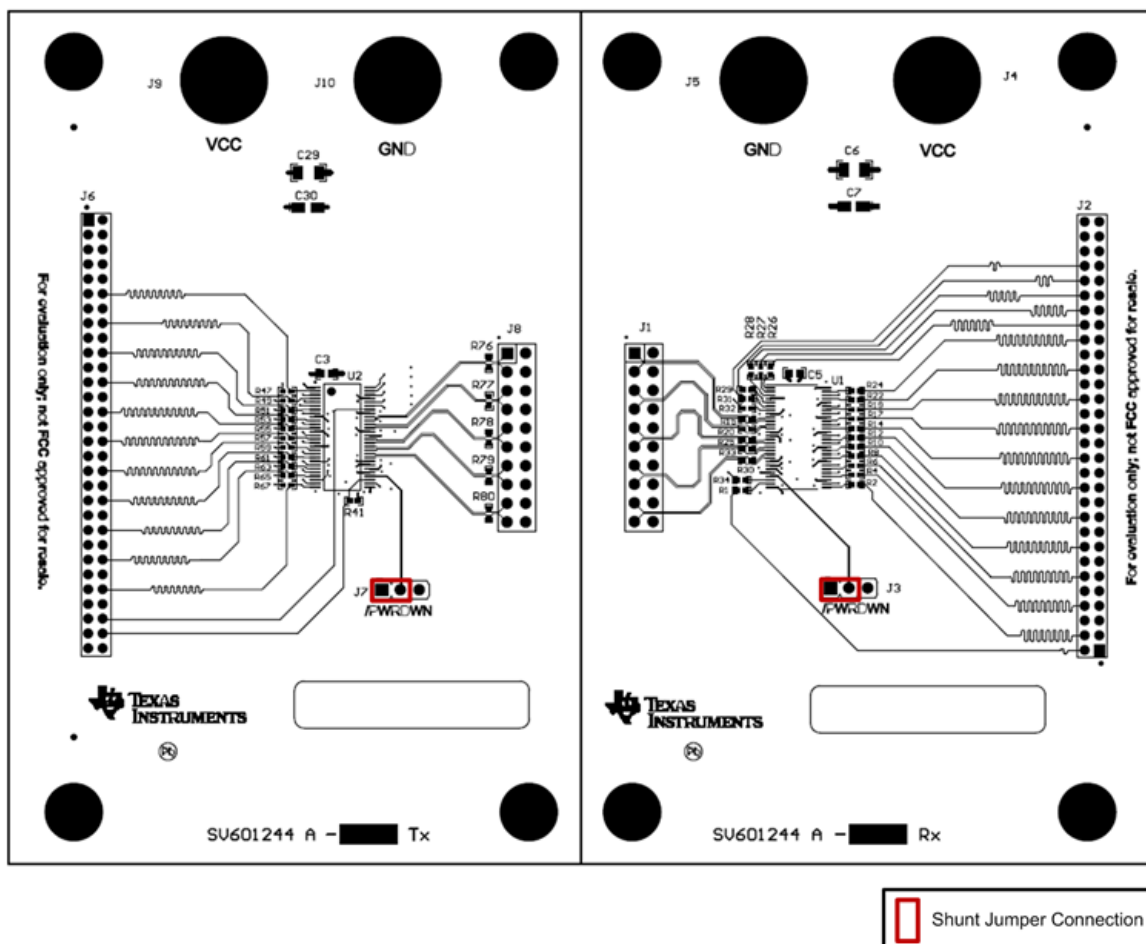

Figure 6. DS90CR285-86ATQEVm Default Jumper Pin Settings
2. Jumpers have been pre-configured by factory default. They should not require any changes for operation of the chipset. Reference Figure 6 for default jumper settings.